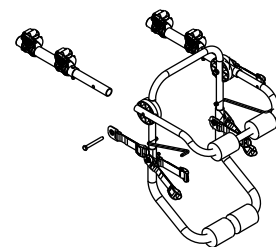

FIG. 4
- B. Firmly tighten the locknuts from previous step **3.B.**(Fig.4)